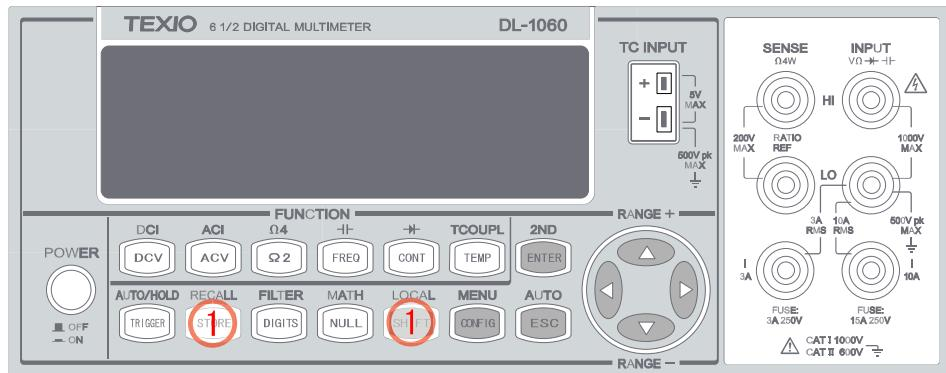

Figure 3-33
1. Press SHIFT + STORE buttons, and the multimeter will display all the stored readings starting from the first reading. Use  $\triangleleft$  and  $\triangleright$  buttons to move from the first reading to the last reading the meter has stored as shown in **Figure 3-33**.